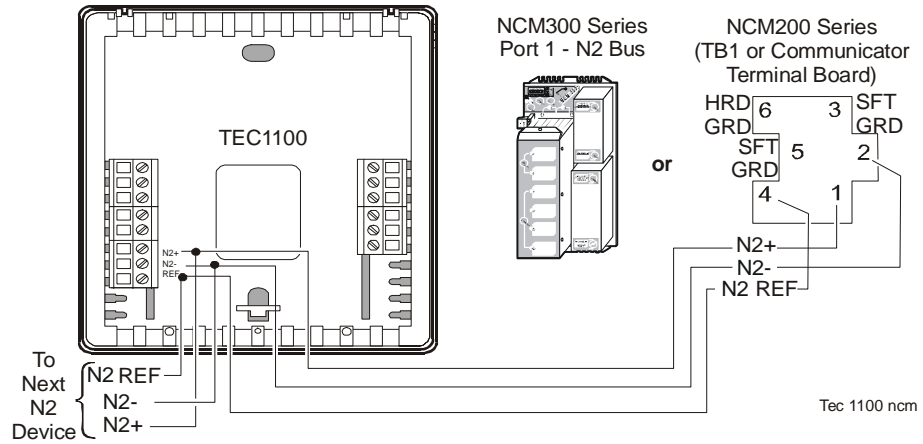

Figure 9: Connecting the TEC1100 to an NCM
2. Continue this process for each TEC1100 using the daisy-chain wiring method (Figure 9).